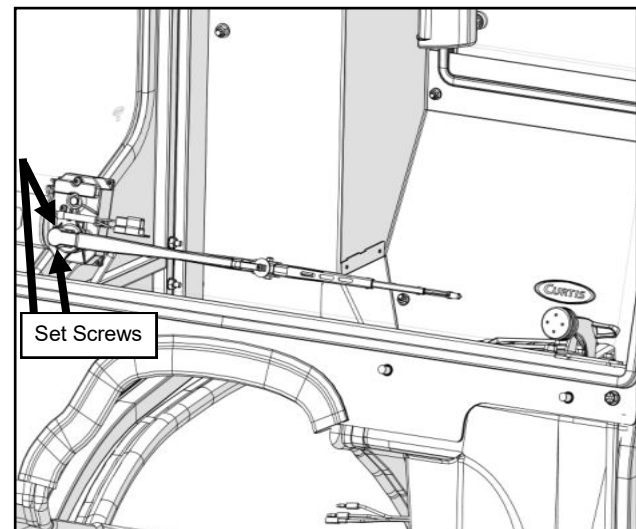

Fig. 19.3 (Wiper Arm and Blade)
19.3 Install the wiper arm onto the wiper motor so that the wiper is horizontal. See Figure 19.3. Tighten the Set Screws.